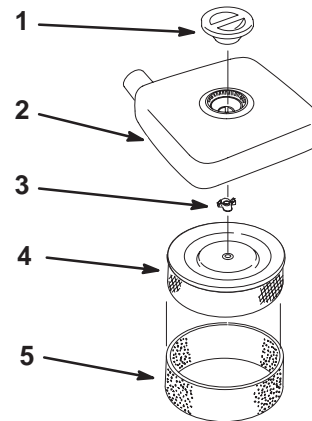

Figure 38
3. Clean around the air cleaner to prevent dirt from getting into the engine and causing damage. Unscrew the knob and remove the air cleaner cover (Fig. 38).
4. Carefully slide the foam element off the paper element (Fig. 38).
5. Unscrew the cover nut and remove the paper element (Fig. 38).
1. Carefully slide the foam element onto the paper air cleaner element (Fig. 38).
2. Place the air cleaner assembly onto the air cleaner base (Fig. 38).
3. Install the air cleaner and secure with cover nut (Fig. 38).